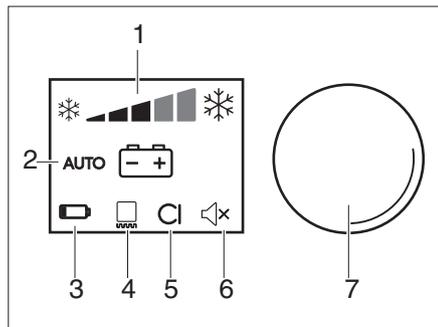

Fig. 88 Operating controls for the refrigerator (Dometic 10 series)
- ▶ Set operating mode to "AUTO" (Fig. 88,2).
- ▶ Use the control knob (Fig. 88,7) to adjust the refrigerating temperature.
- ▶ Press the control knob (Fig. 88,7) for 4 seconds. Refrigerator is switched off.